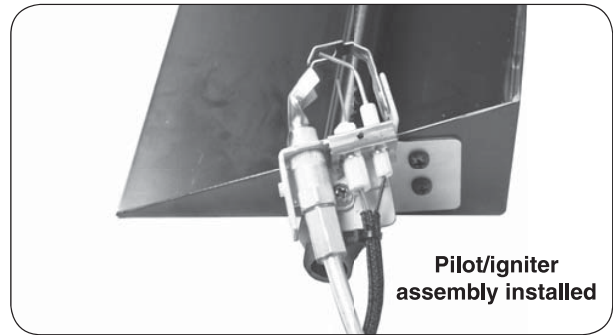

Fig. 6-1
2. Remove the two existing screws on the right side of the burner, align the pilot in place, and fasten using the provided screws. See Fig. 6-1. **Check to be certain the pilot hood and probes are situated above the edge of the pan. Adjust if necessary.**